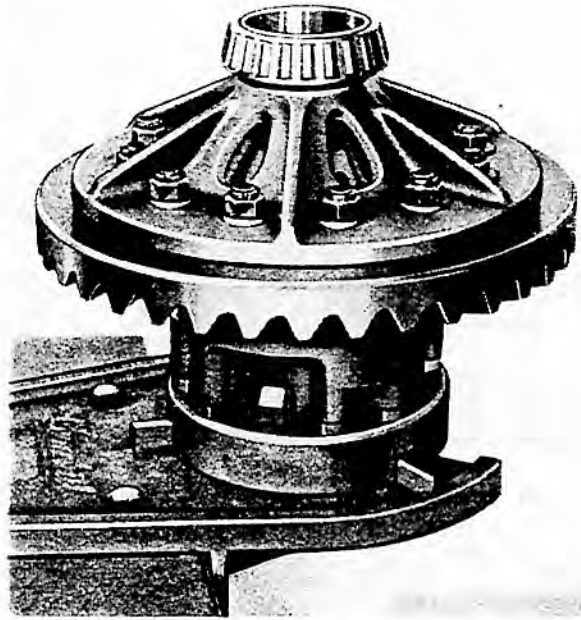

FIG. 20. DIFFERENTIAL CASE ASSEMBLY ON STAND
2. Lift out differential case assembly and, after removing differential coupling cap bearing cone, position on bench stand M-F 9-10 utilising adaptor M-F 9 or M-F 9M, as shown in Fig. 20.